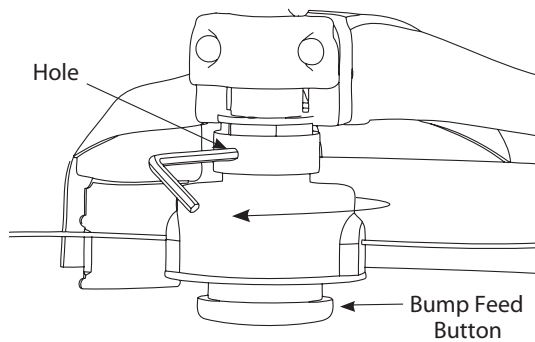

Fig.24
2. Lock shaft by inserting allen key into hole in collar and turn until it engages groove inside. When shaft can no longer rotate, loosen head by turning it as shown (Fig. 24).